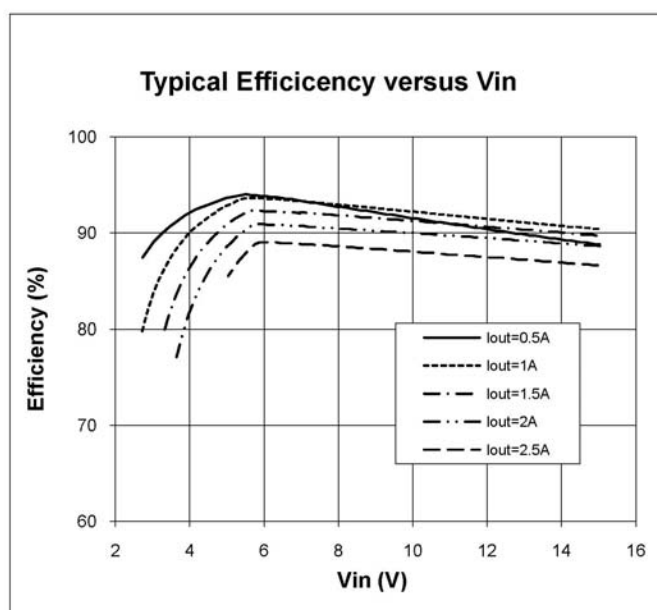

Figure 1. Typical Efficiency
Using short twisted pair leads for any power connections and with all loads and power supplies off, refer to Figure 1 for the proper measurement and equipment setup. The Battery/Power Supply (PS1) should not be connected to the circuit until told to do so in the procedure below.
2. With power OFF connect the power supply (PS1) as shown in Figure 1. If accurate current measurements are desired (for efficiency calculations for example) then connect an ammeter in series with the supply as shown. The ammeter is not required however.
3. Connect the load to VOUT as shown in Figure 1. Again, connect an ammeter if accurate current measurement or monitoring is desired.